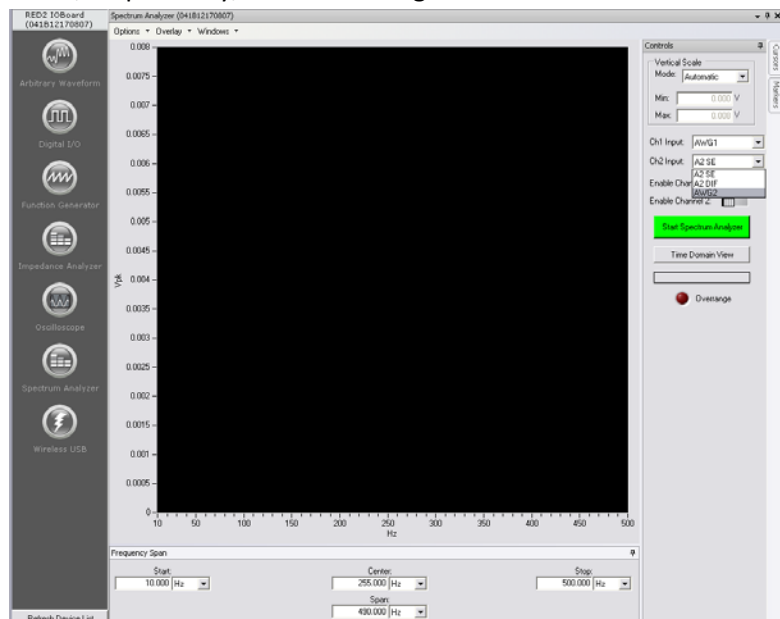

Figure 4-1: Setting Channel Inputs
- 2) To view the frequency representation of signals that have been sent from the *Function Generator* or *Arbitrary Waveform Generator* to both channels, set the “Ch1 Input” and “Ch2 Input” to AWG1 and AWG2, respectively, as shown in Figure 4-1.